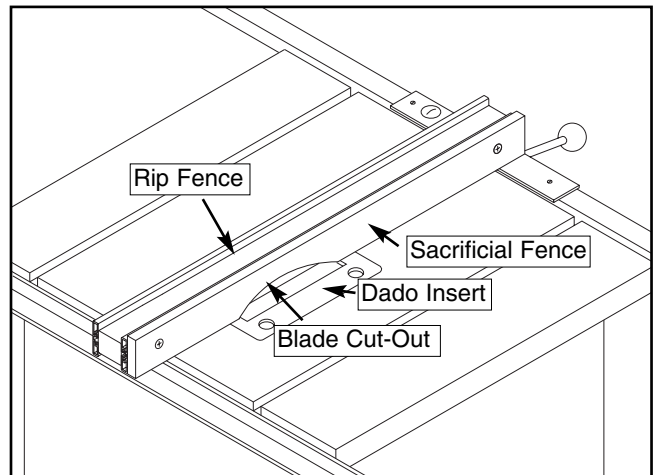

Figure 40. Sacrificial fence.
1. Rabbet cutting on the edge of a piece of stock requires the use of a sacrificial fence attachment. See **Figure 40**. The sacrificial fence can be made from a piece of wood that is as long as the metal fence and $\frac{3}{4}$ " thick. Once the sacrificial fence has been cut, attach it to the metal fence with screws or clamps, making sure they are all secure and tight.